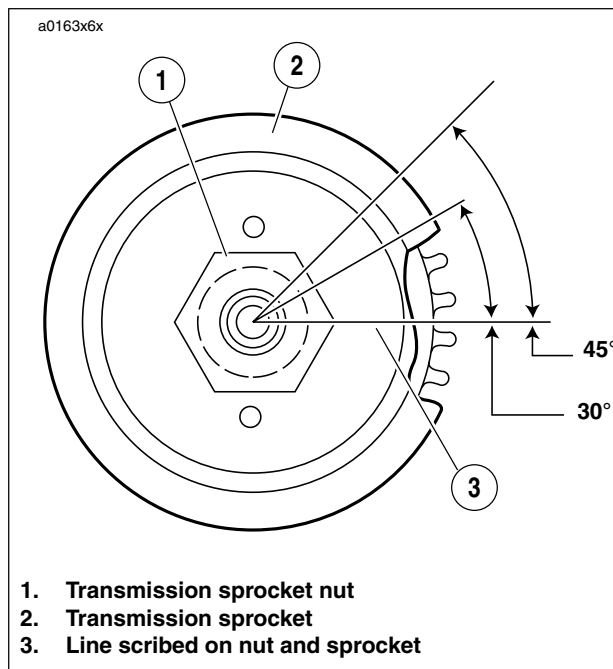

Figure 6-99. Aligning Transmission Sprocket
7. See Figure 6-99. Scribe a line on the transmission sprocket nut and continue the line on the transmission sprocket as shown.